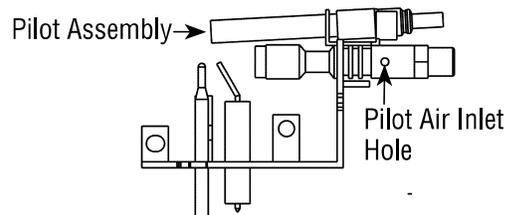

Figure 73 - Pilot Primary Inlet Air Hole (Natural Gas Pilot shown)
6. In case any large clumps of dust have now been pushed into the burner repeat steps 3 and 4. Clean pilot assembly also. Additional cleaning may be needed for proper pilot operation based on use/lack of use. A yellow tip on the pilot flame may indicate dust and dirt in the pilot assembly. There is a small pilot air inlet hole about from where the pilot flame comes out of pilot assembly (*see Figure 73*). With unit off, lightly blow air through air inlet hole. You may blow through a drinking straw if compressed air is not available.